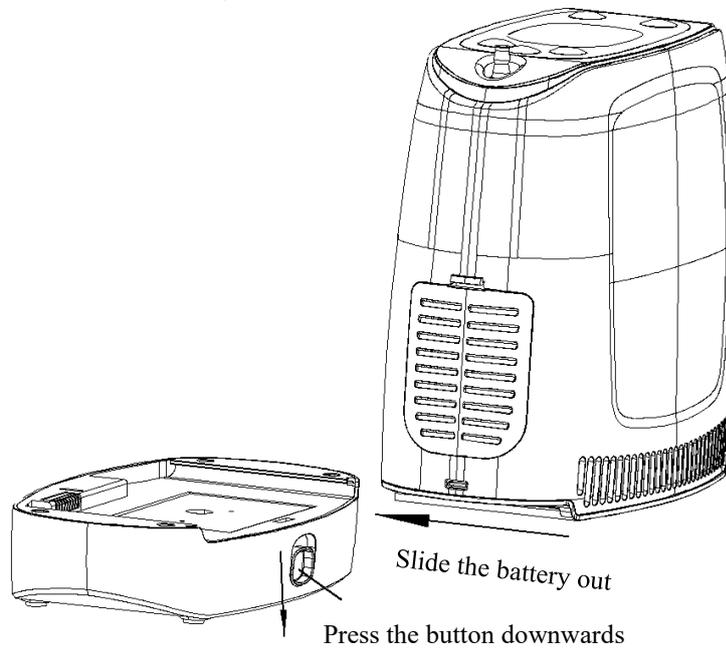

Figure 9 Remove the battery
1. Press the button downwards. (Refer to Figure 9.)
2. Push the battery compartment component backwards to slide it out. (Refer to Figure 9.)